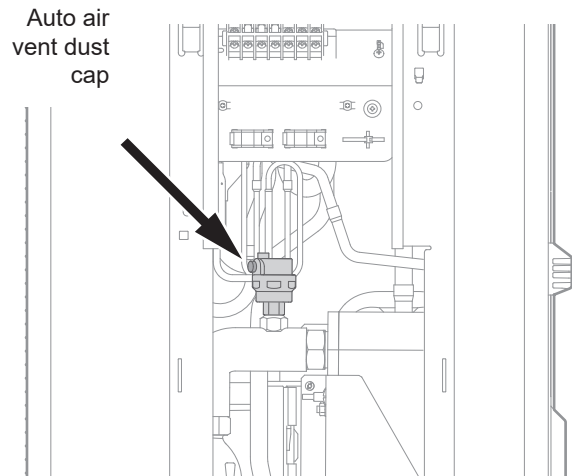

Figure 47. Auto Air Vent Dust Cap
2. Open automatic air vent dust cap. Refer to *Figure 47*.